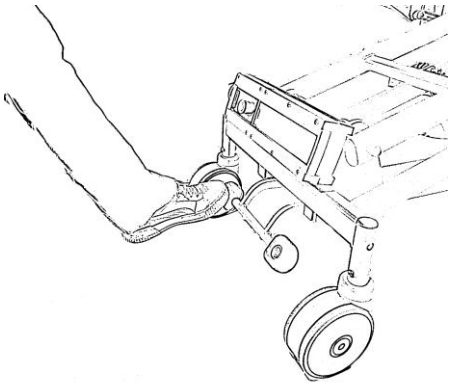

Fig. 3
11 Apply the central brake on the Koval shower trolley (see Figure 3)
- 6 Apply the Koval shower trolley's central brake (see Figure 3).